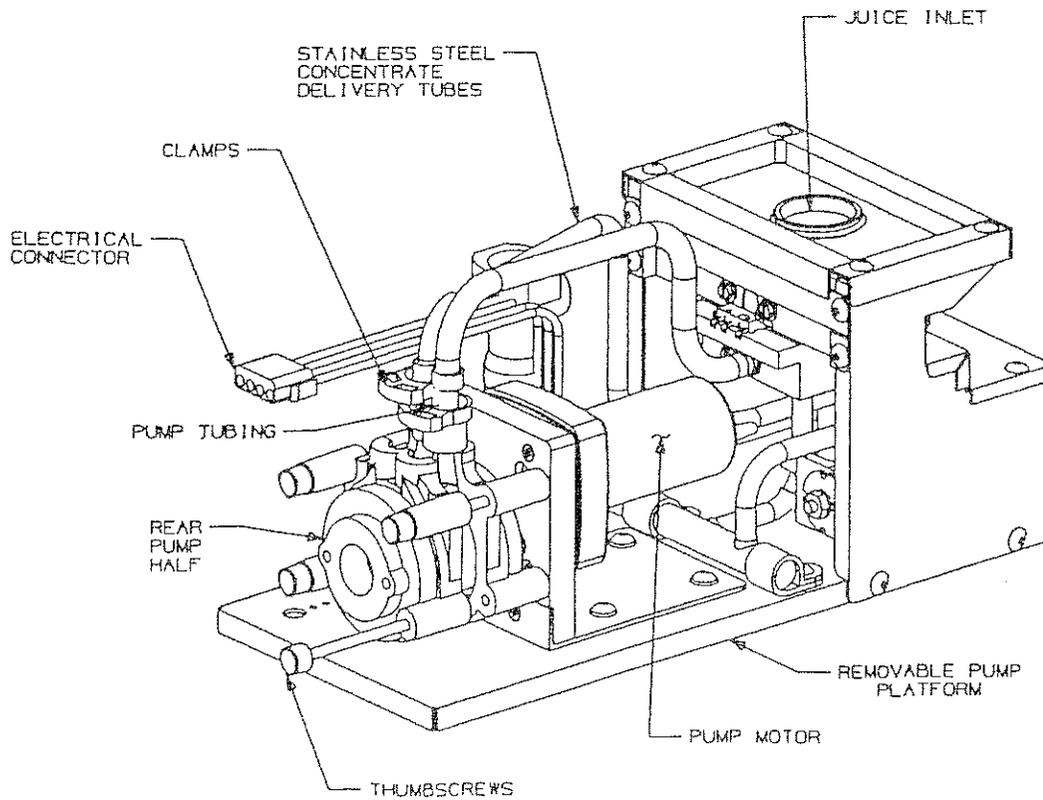

FIG. 2
4.6.2 Replacement of pump hose. (see fig. 2 & 3)